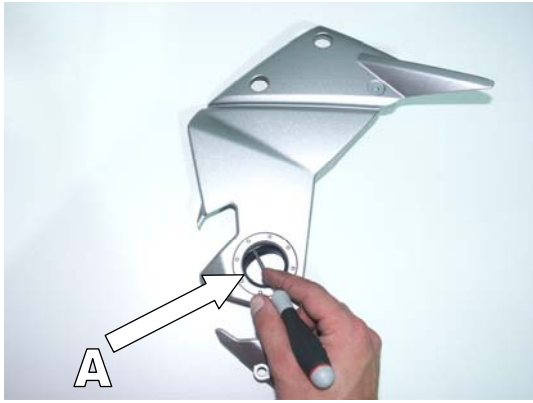

Figure 4
4. Reposition the stock rubber mounts **A** and **B** to Akrapovic carbon-fiber lower frame covers (Figure 4, 5, 6, 7).